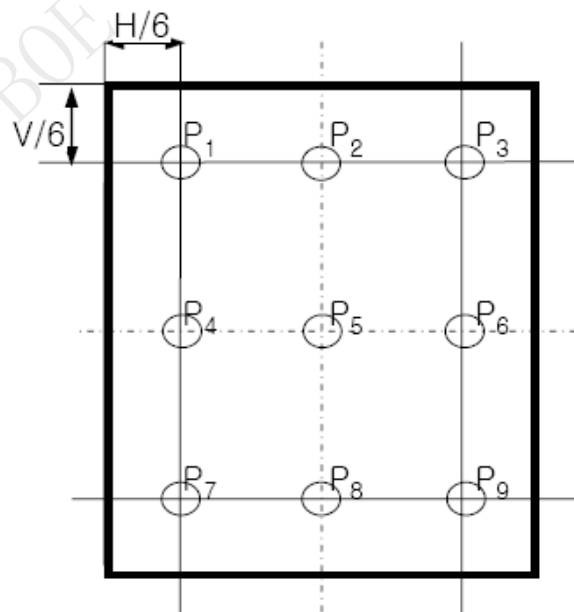

Figure 6. Uniformity Measurement Locations
3. Uniformity measurement shall be taken at the locations shown in FIG. 6, for a total of the measurements per display, measure surface luminance of these nine points across the LCD surface 50cm from the surface with all pixels displaying white.